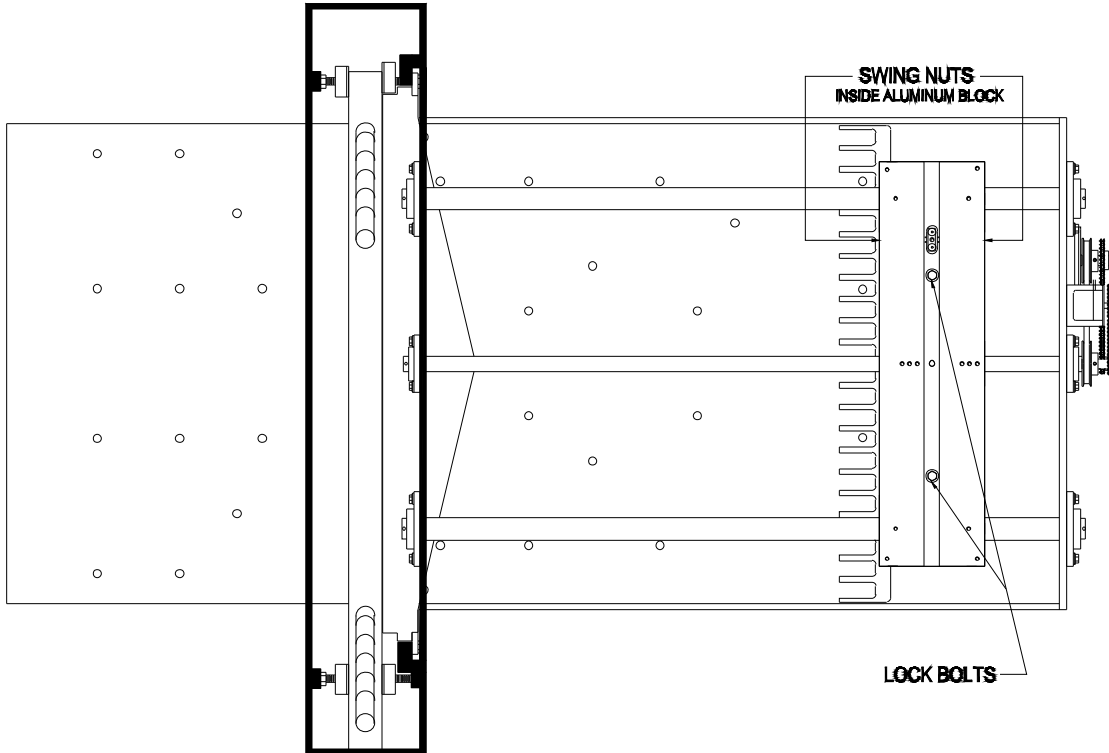

Fig. 40
8. Loosen the two (2) lock bolts with a 9/16 socket wrench. Fig. 40, indicated with an arrow.